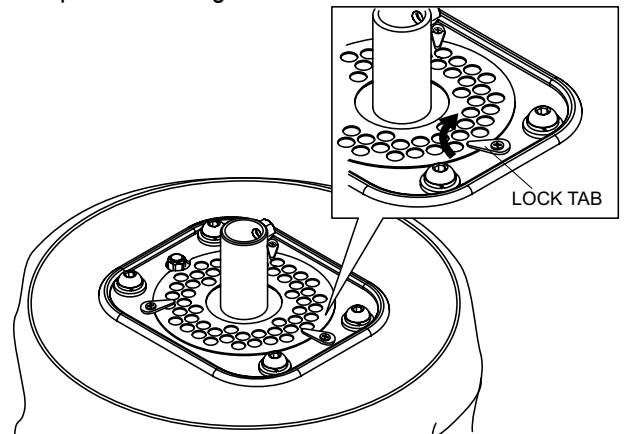

Figure 29. Locking Air Plate
6. Turn the three locking tabs inwards to lock the air plate in place. See Figure 29.